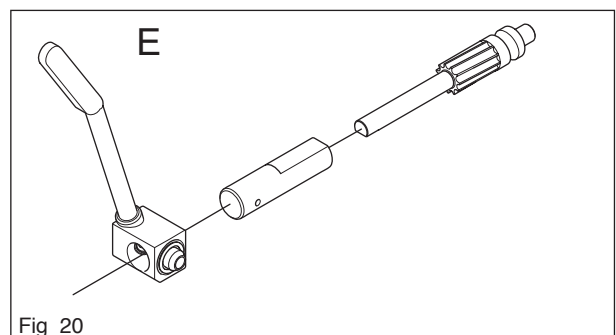

Fig 20
The oil pump (E) is not adjustable (see figure 20).